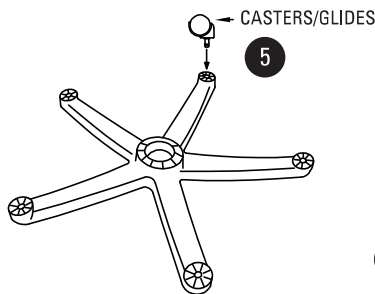
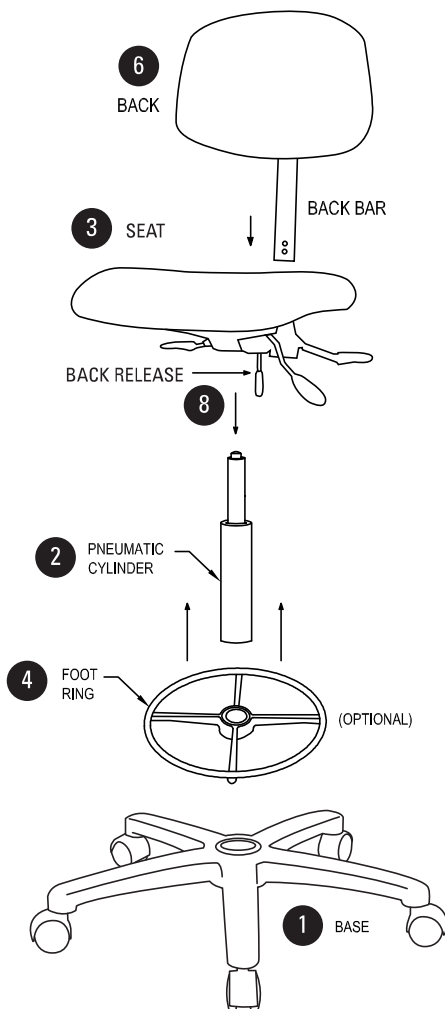

FIGURE 1.
FIGURE 3.
- 2) Place base (1) upside down and insert casters/glides (5) (see figure 1).
- 3) Slide **optional** foot ring (4) over bottom pneumatic cylinder (2). The foot ring rests atop spokes. Make sure spokes face the floor.
- 4) Flip the base so casters/glides are on the floor and insert pneumatic cylinder (2) as shown in (figure 3) into center hole of base with colored button up. Lightly push down. Adjust foot ring to desired height.